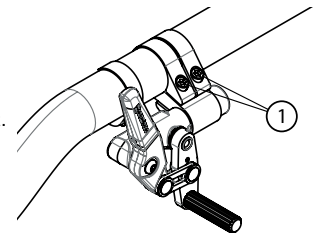

Fig. 28
- Loosen screws (1) (Fig. 28).
- Tighten screws (1) to a snug fit. Final tightening should be done manually.